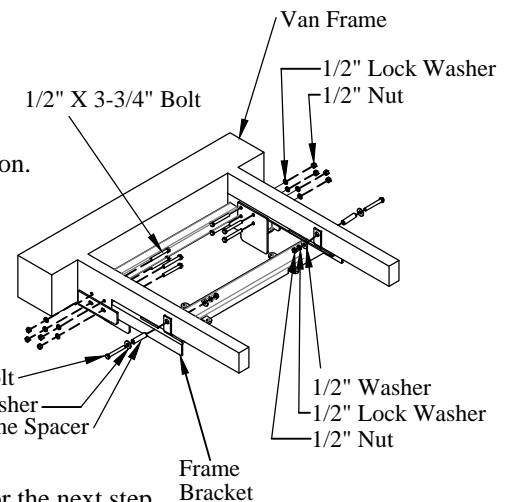

Figure 8: Frame bracket location.
- 7. Attach** the rear end of the frame bracket to the van frame using eight (8) supplied 1/2" x 3-3/4" bolts, lock washers, and nuts.
- 8. Drill** two (2) Ø3/4" holes through the van frame, using the holes in the frame bracket as a guide (Figure 8). Hold the frame bracket against the bottom of the van frame while performing this step.